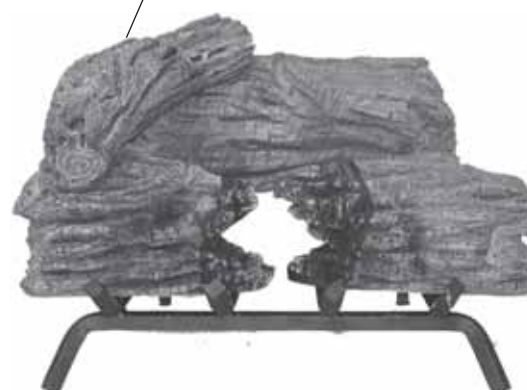

Figure 16 - Placing Left Middle Log (#4)
5. Install left side middle log #4 as shown. *See Figure 16.*